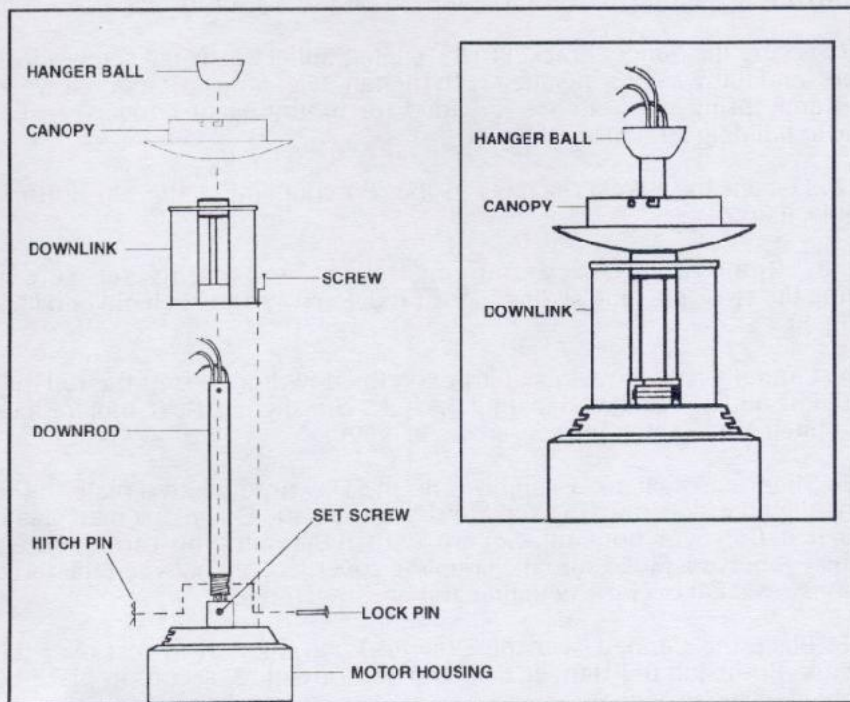

FIG. 9
**Step 4.** Carefully feed fan wires up through the downrod. Insert the rod into the coupling and tighten onto fan until the holes are aligned. Next, replace lock pin and hitch pin. Tighten the set screws. (Fig. 9)
**Step 5.** Slip the DownLink assembly onto the Downrod (slotted plate to the bottom) align the slots from the Top Motor Housing and DownLink plate, plate should rest flat over housing. Secure with the remaining three screws previously removed. Make sure the coupling cover located between the three extrusions rests flat over the coupling and housing. (Fig. 9)
**Step 6.** Place the Canopy over the Downrod and allow it to rest over the DownLink. Re-install the Hanger Ball over the Downrod, secure in place by tightening the screw. (Fig. 9)